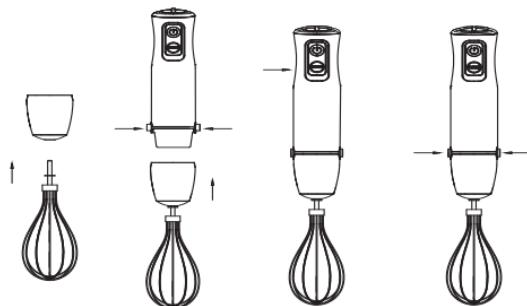

Abb. 3
- Use the whisk attachment (7) only for beating egg whites, making biscuit dough or for mixing ready desserts.
**Before installing the whisk attachment (7), make sure that the power plug is not inserted into the mains socket.**
- Insert the whisk attachment (7) into the whisk gear (6).
- Insert the whisk gear (6) into the motor unit, make sure that the gear (6) and the whisk (7) are fixed properly (fig. 3).
- Immerse the whisk attachment (7) into a suitable bowl with food. You can put the foodstuffs into the cup (11).
- To switch the unit on, press and hold down the button (4) «».
- When you press and hold the button (4) «» you can control the attachment rotation speed by turning the control knob (5).
- For operation at the maximal rotation speed, press and hold down the button (3) «TURBO».
- After you finish using the unit, disconnect the power plug from the mains socket, disconnect the whisk gear (6) from the motor unit.
- Remove the whisk attachment (7) from the gear (6).